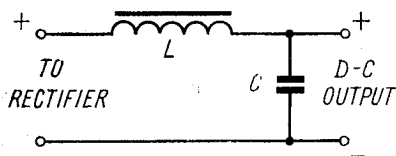

Fig. 23. Choke-input filter
5. A typical choke-input filter is illustrated in Fig. 23.